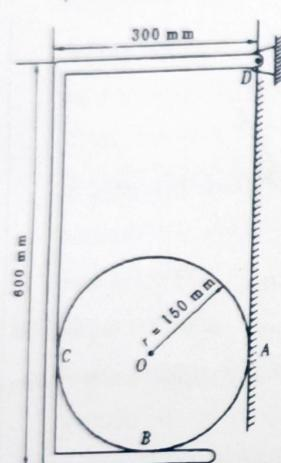
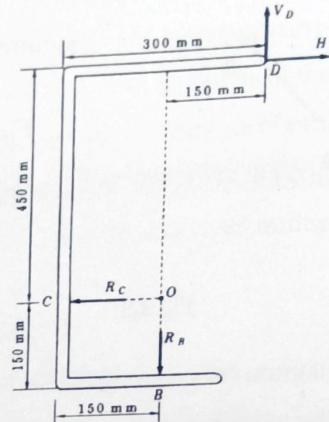

Fig 2.10
Fig 2.11
- 5) Draw FBD of cylinder and frame as shown in fig 2.10. (Ans: Fig 2.11 & 2.12)